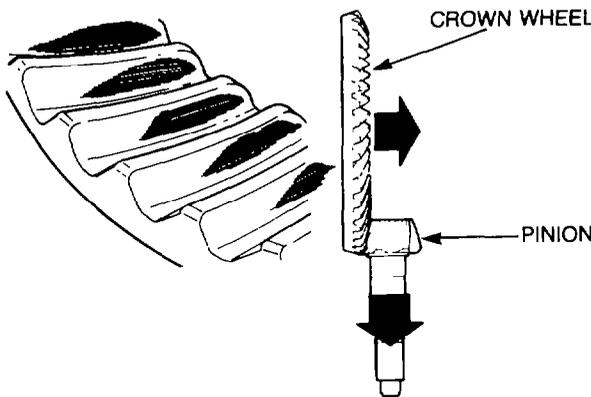

Figure 214 — Low Contact Area
- y. Fig. 214 illustrates a low contact area, which indicates that the pinion shaft is set too deep. Decrease the thickness of the shim pack between the pinion shaft bearing cup and the carrier to obtain the correct pinion height. Slight inward movement of the crownwheel may be necessary to obtain the correct pattern.